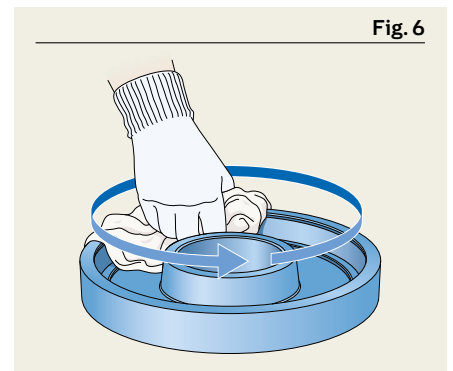

Fig. 6
- 2 Clean the housing surface from any foreign materials or residue. Use a lint-free cloth with a volatile solvent or industrial degreasing alcohol. Ensure any cleaning agent used evaporates quickly and does not leave any residual oil film (**Fig. 6**).